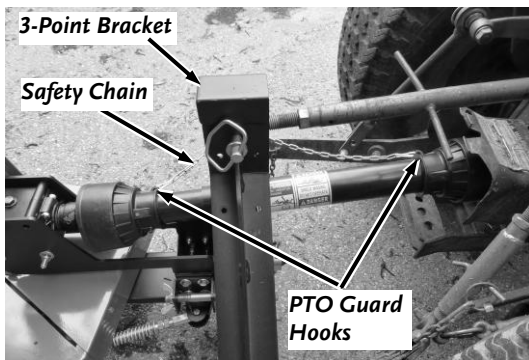

Figure 19
- Attach the Safety Chain of the PTO Shaft around a solid area of the 3-Point Bracket with the Chain ends attached to both ends of the PTO Shaft Guard (Figure 19). Make sure the Chain has enough slack in the full range of the Tractor 3-Point Arm travel.